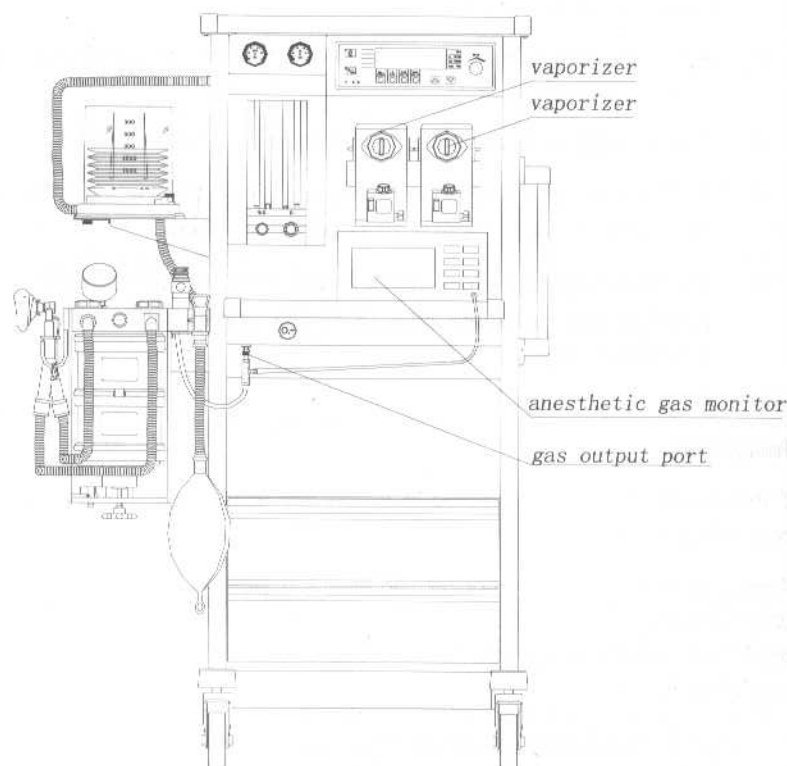

Figure 5-1 Output concentration testing
- Connect anesthetic gas monitor to fresh gas outlet (see figure5-1), ensure that no leakage occurs.